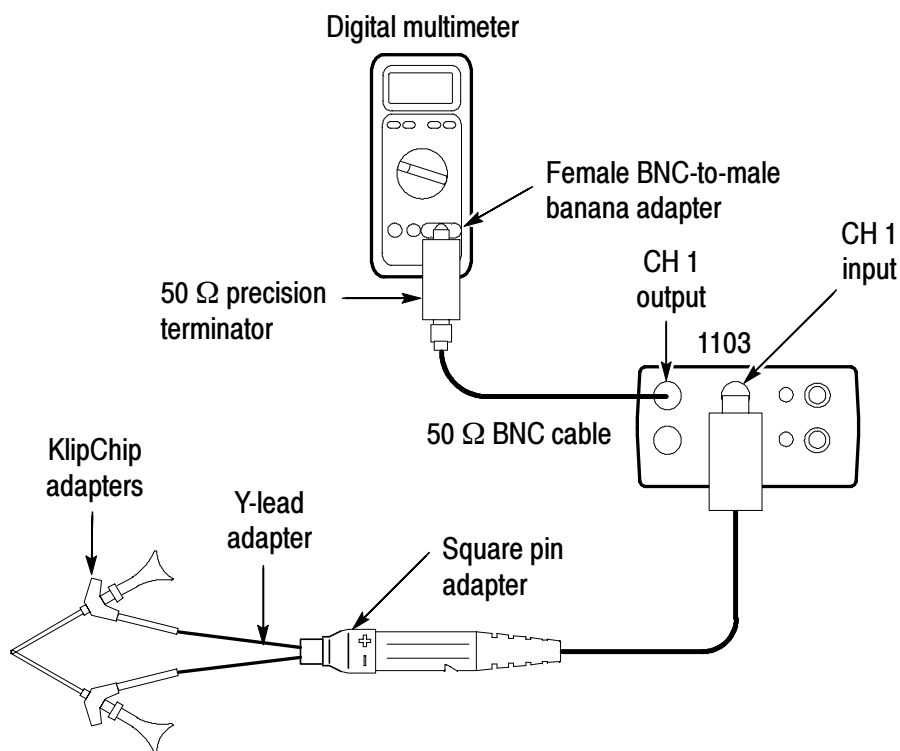

Figure 18: Setup for the output offset voltage test
1. Connect the probe as shown in Figure 18.
2. Connect the probe as shown in Figure 18 on page 41.